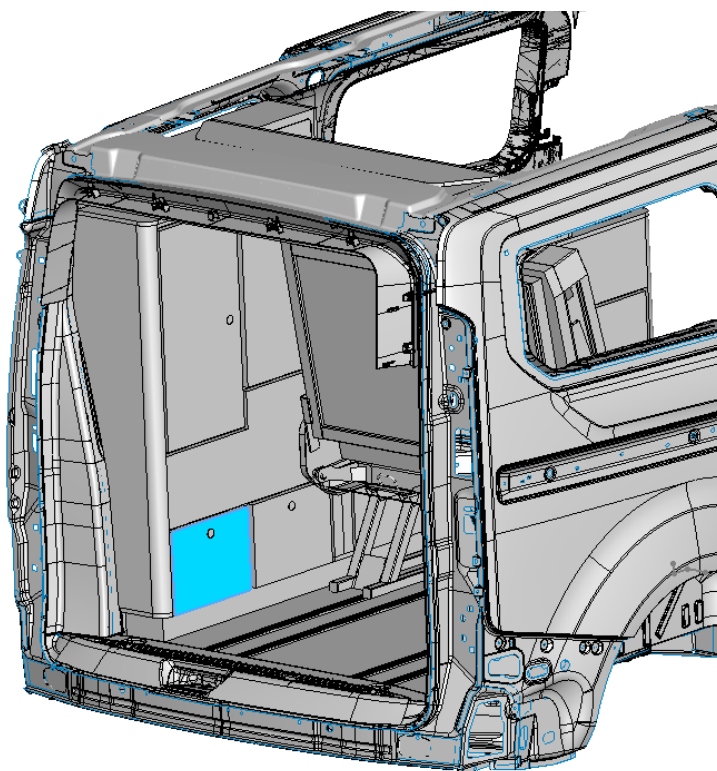

Fig. 11
- The fuses and relays of the Pacific version are located in the lower rear part of the body under the cover illuminated in blue (**Fig. 11**).